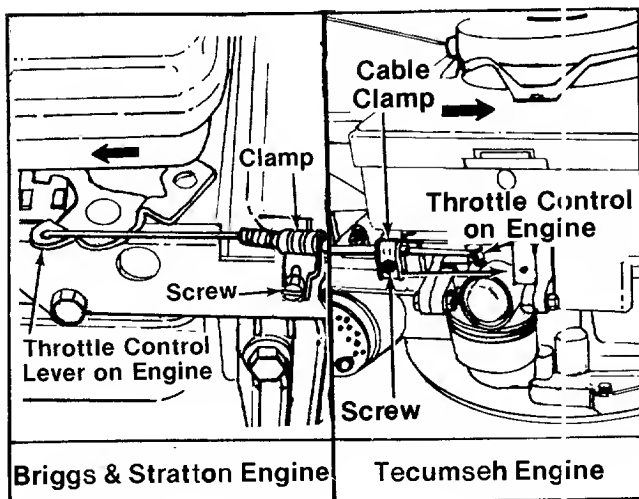

FIGURE 8.
7. Push the throttle control lever on the engine to the full open position (as far toward the outside of the unit as it will go on Briggs and Stratton engines and as far toward the front of the unit as it will go on Tecumseh engines) as shown in figure 8.
9. Remove the screw on the cable clamp shown in figure 8. Slip the control casing under the clamp. With the throttle lever on the engine still in the full open position, replace and tighten the screw to secure the throttle control cable.
1. Loosen, but do not remove, screw securing throttle control wire assembly at engine. See figure 8.